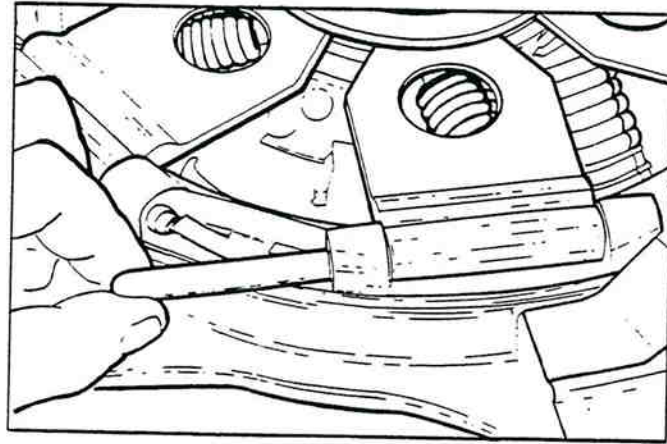

Figure 5-22. Insert Pivot Pins.
9. Return assembly to workbench and place levers between adjusting ring bosses with narrow end or "nose" in groove of release sleeve retainer. Lever fulcrum or raised area of lever must be facing pressure plate. Move adjusting ring either clockwise or counterclockwise as necessary to insert pivot pins. Return adjusting ring to previously set position (figure 5-22).